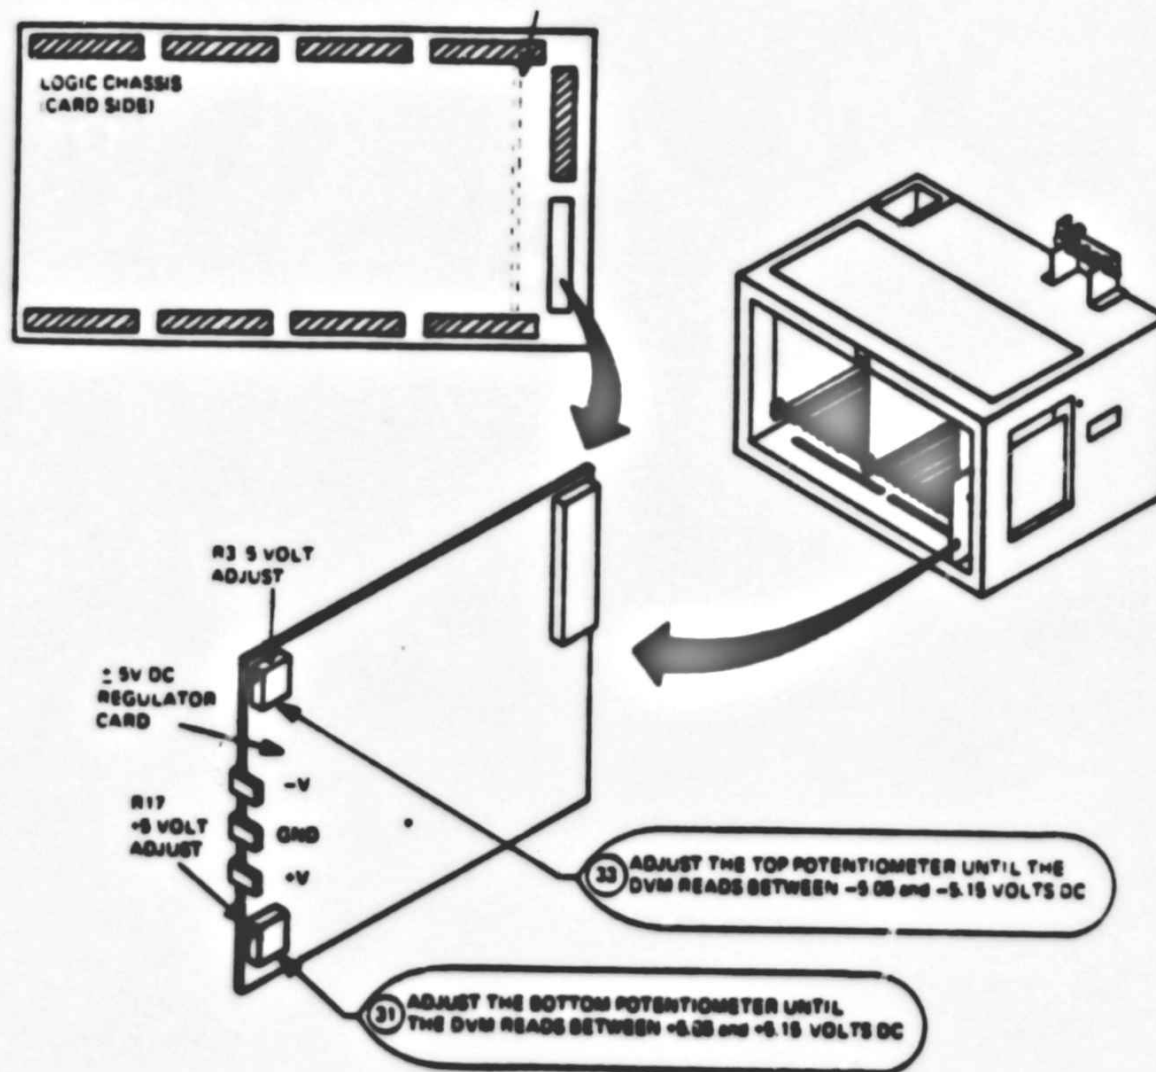

FIGURE 14 RM05 MAIN LOGIC CHASSIS (CARD SIDE)
31. Adjust the bottom potentiometer of the ± 5 volt DC regulator card on the card side of the main logic chassis until the DVM reads between $+5.05$ and -5.15 volts DC. (see Figure 14)
33. Adjust the top potentiometer of the ± 5 volt DC regulator card on the card side of the main logic chassis until the DVM reads between -5.05 and -5.15 volts DC. (See Figure 14)